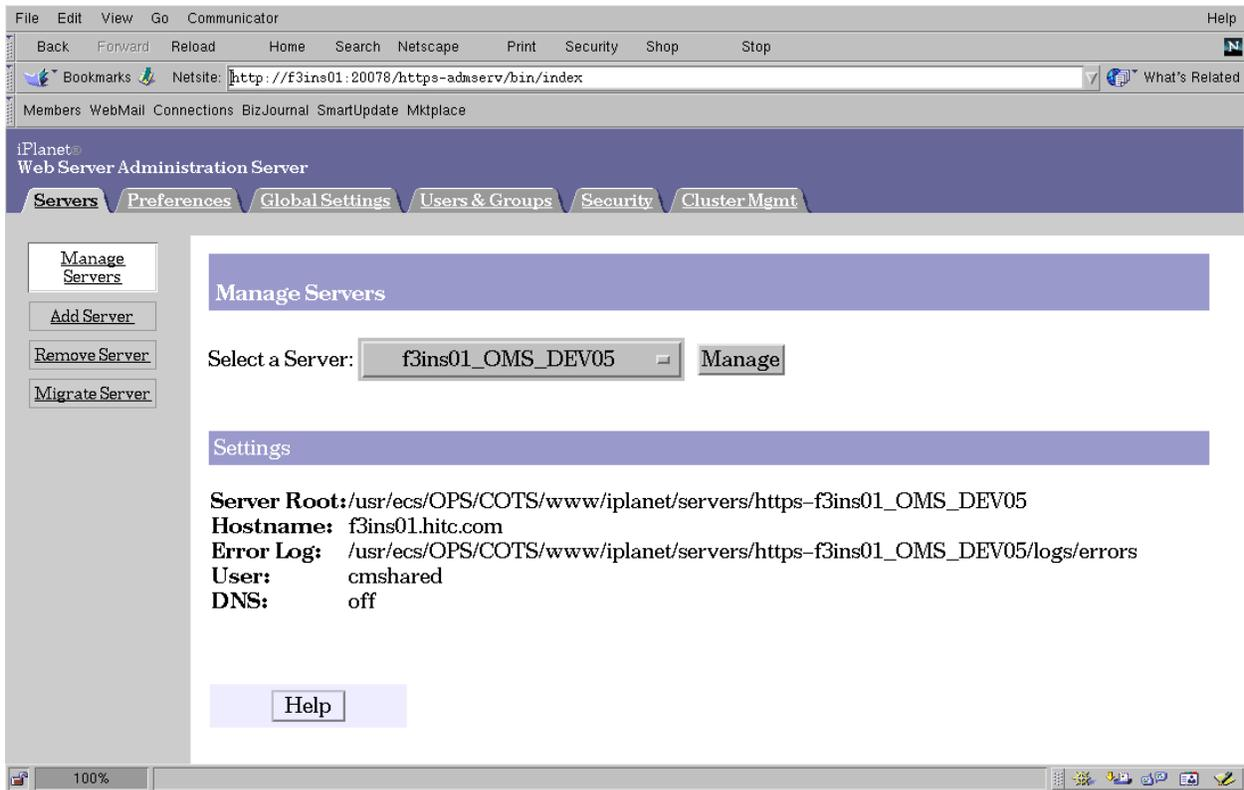

Figure 4.12.4-1. Sun ONE Web Server Administration Server Screen
- Servers tab (shown in Figure 4.12.4-1) - for adding (i.e., creating) and removing web server instances and invoking the Server Manager GUI. Operators invoke the Server Manager GUI by first selecting a web server from the tab's Select A Server pulldown menu, then pressing the Manage button
- Preferences tab (shown in Figure 4.12.4-2) – for starting and stopping the server and configuring runtime options for it such as port number, MIME types, caching, thread pools and performance tuning parameters